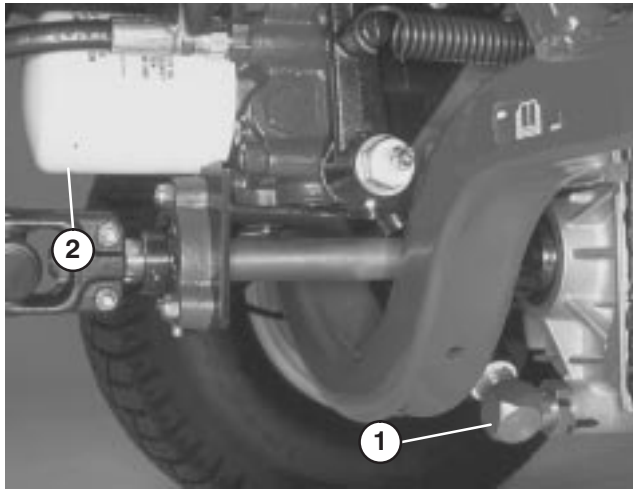

Figure 67
- Clean area around suction line on bottom of transmission (Fig. 67). Place drain pan under line.
- Clean area around filter mounting area (Fig. 67). Place drain pan under filter and remove filter.